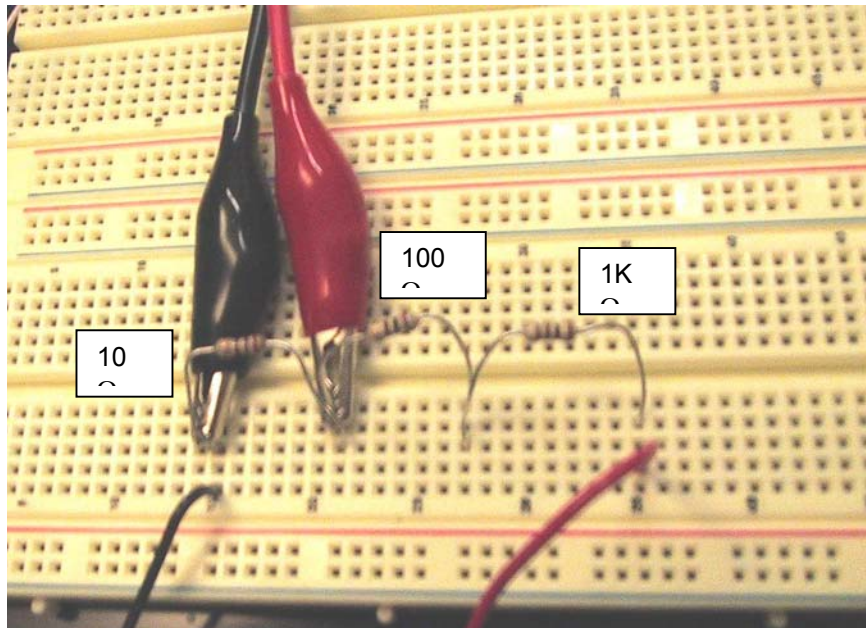

FIGURE 3 – CLIP LEADS FROM DAC ATTACHED TO 100 RESISTOR
- 3) Attach the leads from the Keithley Multimeter Unit across the 10  $\Omega$  resistor as shown in Figure 3.